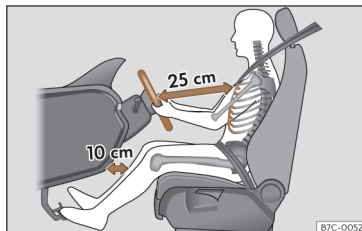

Fig. 14 The correct distance between the driver and the steering wheel must be at least 25 cm (10 inches).
- Adjust the steering wheel so that it is at a distance of at least 25 cm (10 inches) from the sternum >>> Fig. 14 and you can hold it with both hands on the sides, on the outside, with your arms slightly flexed.